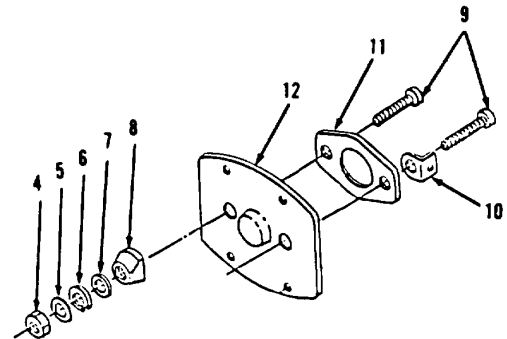
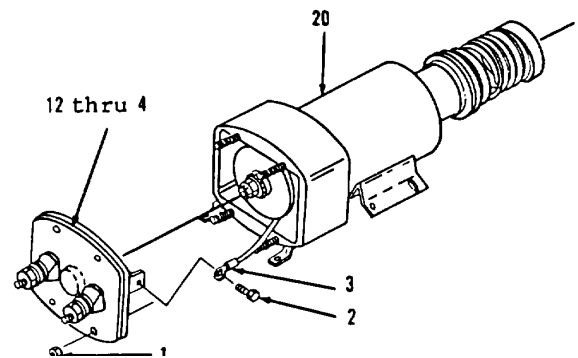

Figure 4-58.
Figure 4-57.
9. Install insulator (11), terminal (10) and two studs (9) on cover (12, Figure 4-58).
10. Coat two spacers (8) with Glyptal.
11. Install two spacers (8), washers (7), lockwashers (6), washers (5) and nuts (4).
12. Position items 12 thru 4 as an assembly on housing (20, Figure 4-57).
13. Connect wire assembly (3).
14. Install screw (2).
15. Install four nuts (1).